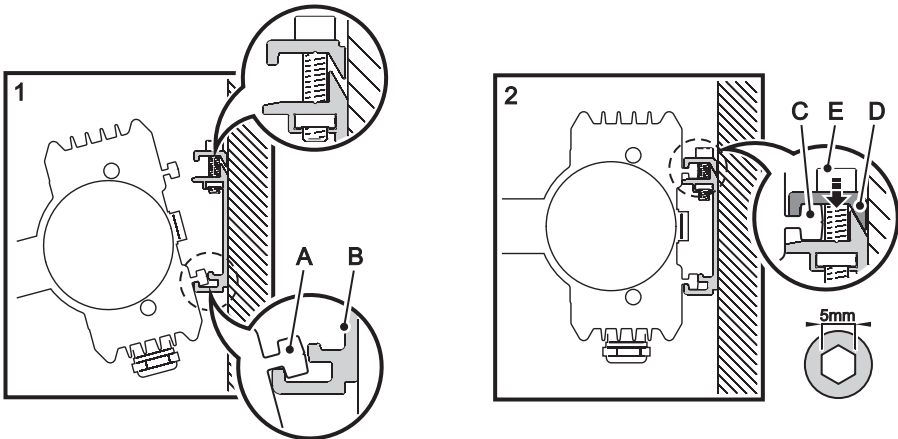

Figure 4: Installing on the mounting bracket
5. See Figure 4. To install the luminaire on the mounting bracket, hook the raised T-section (A) on the lower side of the luminaire base into the channel (B) on the mounting bracket, then swing the luminaire up so that